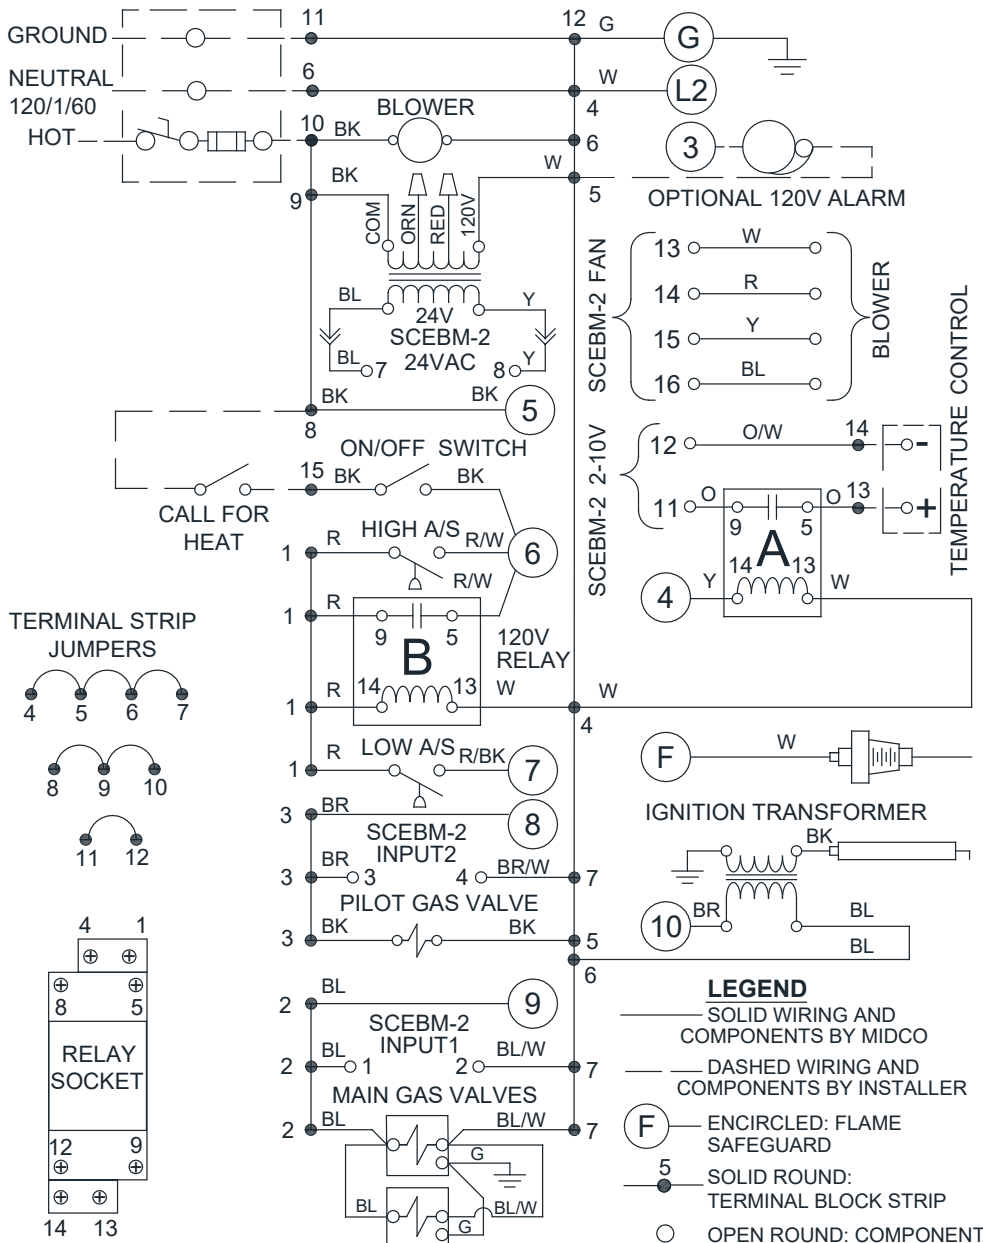

Figure 4A: Wiring Diagram for the VA series models
- for **Honeywell control** - 2 (Blue), 7 (Blue/White) and 12 (Green) (refer to Figures 4A and 4B).
- for **Honeywell control** - terminals 8 and 15 (refer to Figures 4A and 4B).